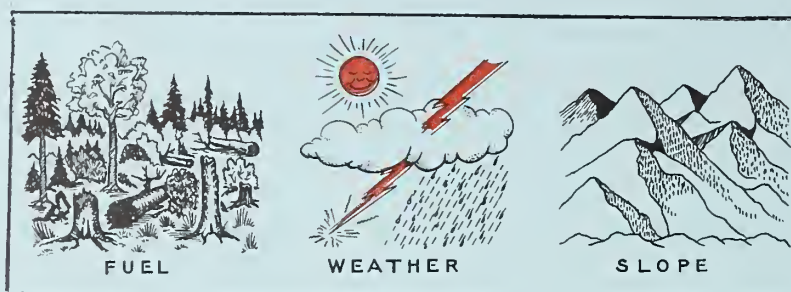

Figure 1.--Why a fire spreads.
42.1 - Fuels. Fuels are commonly divided into two main groups: light or fast-burning fuels make up one group--dry grass, dead leaves and tree needles, brush, and small trees (figure 1). Light fuels cause rapid spread of fire and serve as kindling for heavier fuels. Some green fuels such as tree needles, chamise, gall berry-palmetto, ceanothus, and other brush types have a high oil content and are fast burning when they are not in the active growing stage.